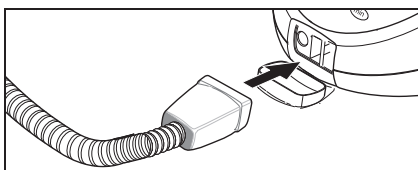

Figure 5
- Tightly insert the steam plug (C7) into the appliance connector (A1). The locks of the steam plug must lock into the cover of the appliance connector (see Figure 5).